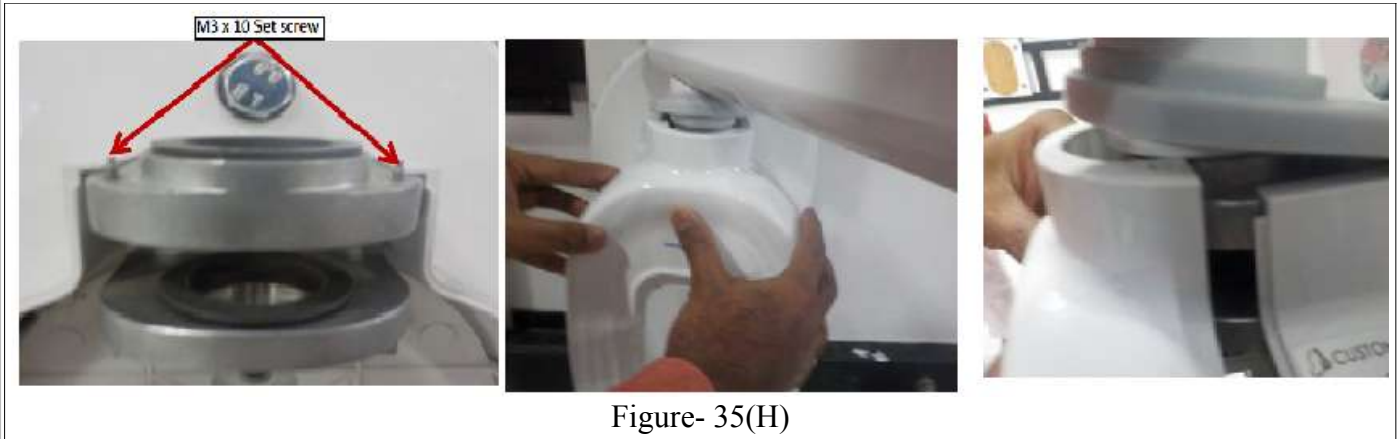

Figure- 35(H)
- Mark the location for the wiring hole on the template as shown in Figure- 35(B).
- Take the remote keypad console assembly. Pull out the console from the slot and remove 4 No's. M3x6 socket head screw with M3 plain washers using 2.5 mm allen key as shown in Figure- 35(C).
- Lift the cover along with console assembly and disconnect the console cable from the J8 connector of the board and keep the parts aside as shown in Figure- 35(D).
- Take the base plate of remote keypad console and route the remote console communication cable through the hole provided on the plate and fix the remote console plate on the stud with 2 No's of 6.3x32mm self tap wood screw using 8 mm box spanner at the 2 mounting hole locations as shown in Figure- 35(E).
- Connect the external console cable to J8 connector as shown in Figure- 35(F).
- Close the cover of the remote console by fixing 4 No's. M3x6 socket head screw using 2.5 mm allen key and fix back the remote keypad console in the slot of the cover as shown in Figure- 35(G).
- Take base unit Front cover assembly, align two drilled holes on the front cover top to the Set screw and Hang the cover over set screw as shown in Figure- 35(H)